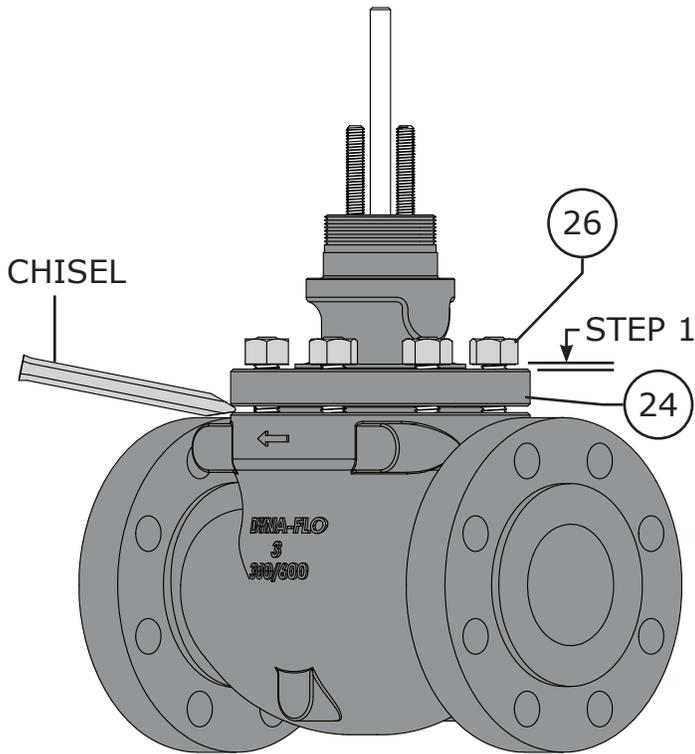

Figure 7 Bonnet Removal (Steps 1 - 2)
- 1 Loosen the bonnet nuts (Key 36) 1 full turn after contact between the nuts and the top surface of the bonnet (Key 24) has been broken. Do not remove the bonnet nuts until any trapped process pressure has been vented. Refer to Figure 7.